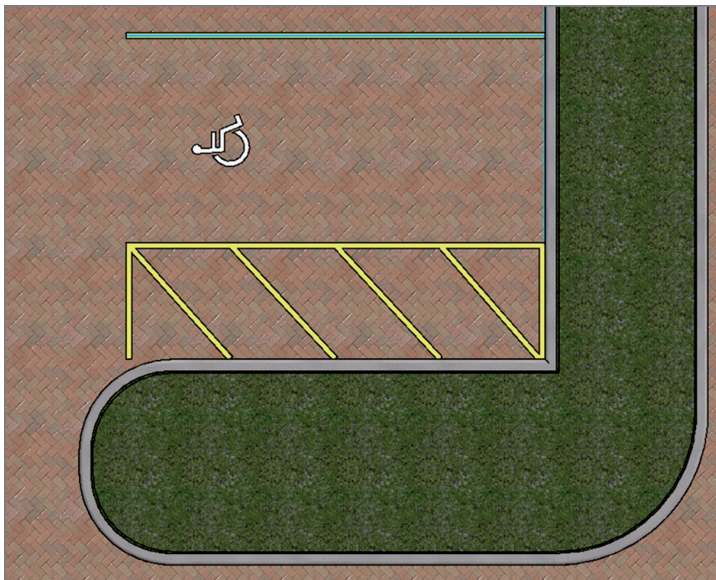

FIGURE BC3.16: The ADA parking space
2. Select Parking Space – ADA 9' × 18' (5' Aisle) (2743 mm × 5486 mm). Place an instance as shown in Figure BC3.16. Use the spacebar to rotate it properly.